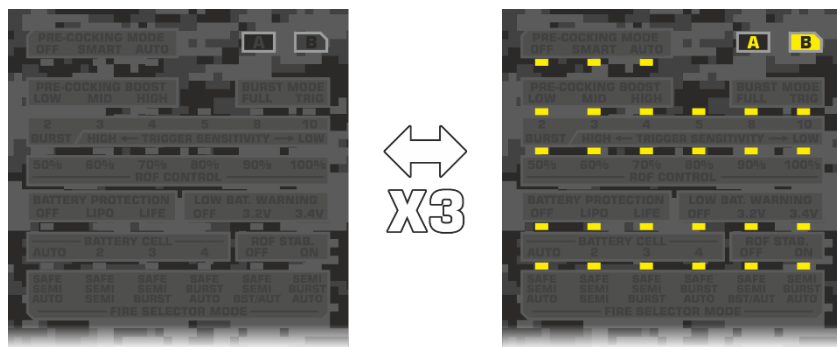

Fig.9
- All LEDs blink 3 times – default settings are restored or factory settings are restored (Fig.9).